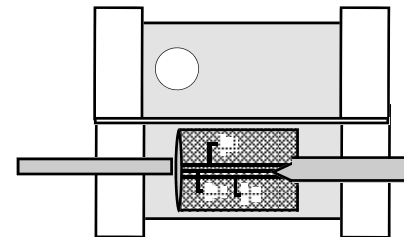

Figure 2
5. Position the splice in the center of the closure. (see figure 2)